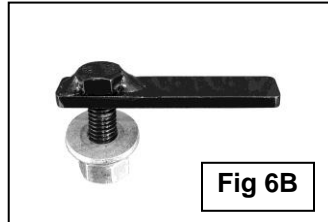
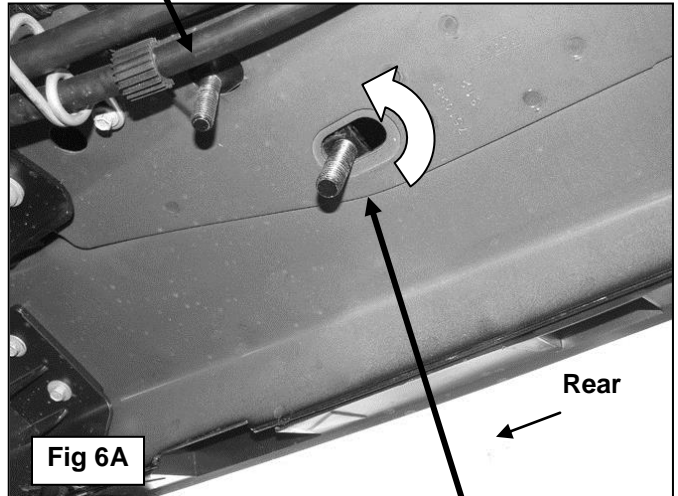
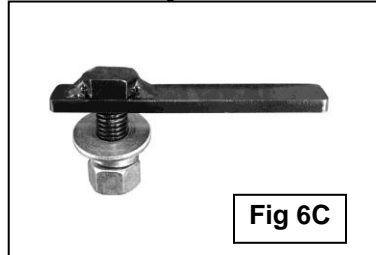

Fig 6B
Fig 6A
Fig 6C
6. Locate the oval and round holes in the floor panel toward the rear of the vehicle, **(Figure 6A)**. Insert (1) 10mm x 35mm Bolt Plate into the round hole, **(Figure 6B)**. Insert (1) 12mm x 40mm Long Bolt Plate into the oval hole next to the pinch weld, **(Figure 6C)**. Rotate the Bolt Plate 90-degrees so that the plate is across the oval hole. Position the Rear Mounting Bracket over the (2) Bolt Plates. Secure the Bracket to the 12mm Bolt Plate with (1) 12mm Flat Washer, (1) 12mm Lock Washer and (1) 12mm Hex Nut, **(Figure 7)**. Bolt the Bracket to the 10mm Bolt Plate with the included (1) 10mm x 27mm OD Large Flat Washer, (1) 10mm Lock Washer and (1) 10mm Hex Nut. Hold the Support Bracket firmly against the back of the pinch weld and tighten the hardware at this time.